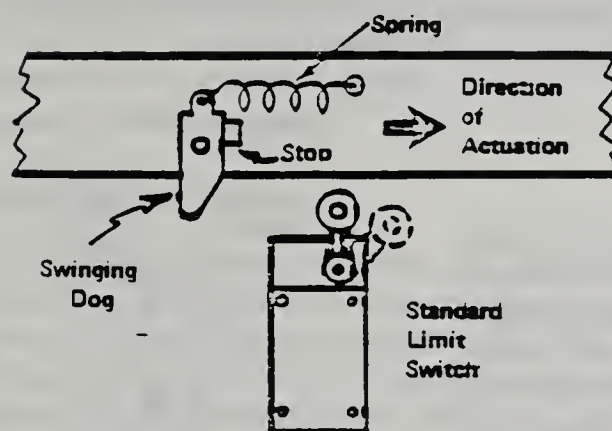

**FIGURE 1-12.**
**Figure 1-12.** An example of a non-enclosed limit switch having a one-way roller actuator. The actuator arm has a knee joint which folds out of the way of a machine cam approaching from the left without actuating the switch contacts. But when a cam approaches from the right, the knee joint does not bend, and the switch contacts are actuated.